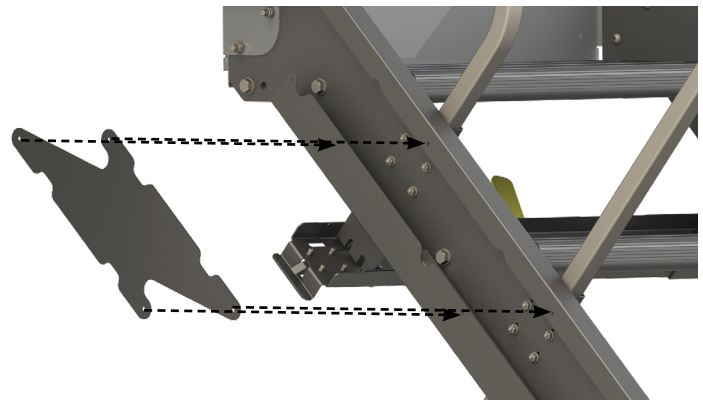

Fig.11
25. Align the backer plate with the predrilled holes in the steps (Fig.11).